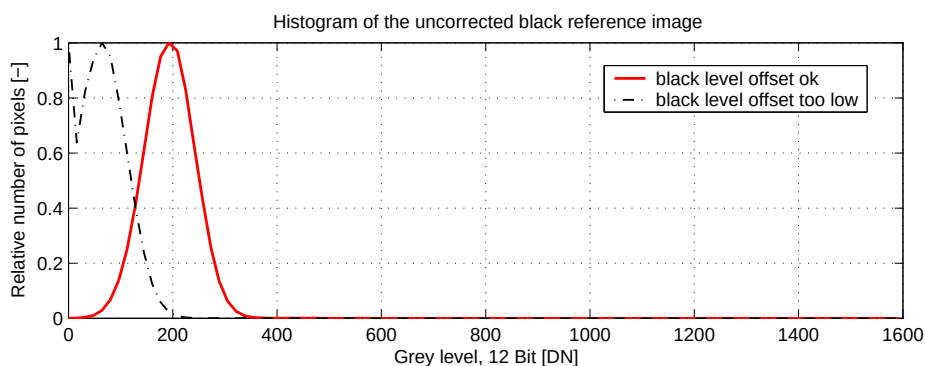

Figure 4.39: Histogram of a proper black reference image for offset correction
- It may be necessary to adjust the black level offset of the camera. In the histogram of the black reference image, ideally there are no grey levels at value 0 DN after adjustment of the black level offset. All pixels that are saturated black (0 DN) will not be properly corrected (see Fig. 4.39). The peak in the histogram should be well below the hot pixel threshold of 1008 DN @ 12 bit.